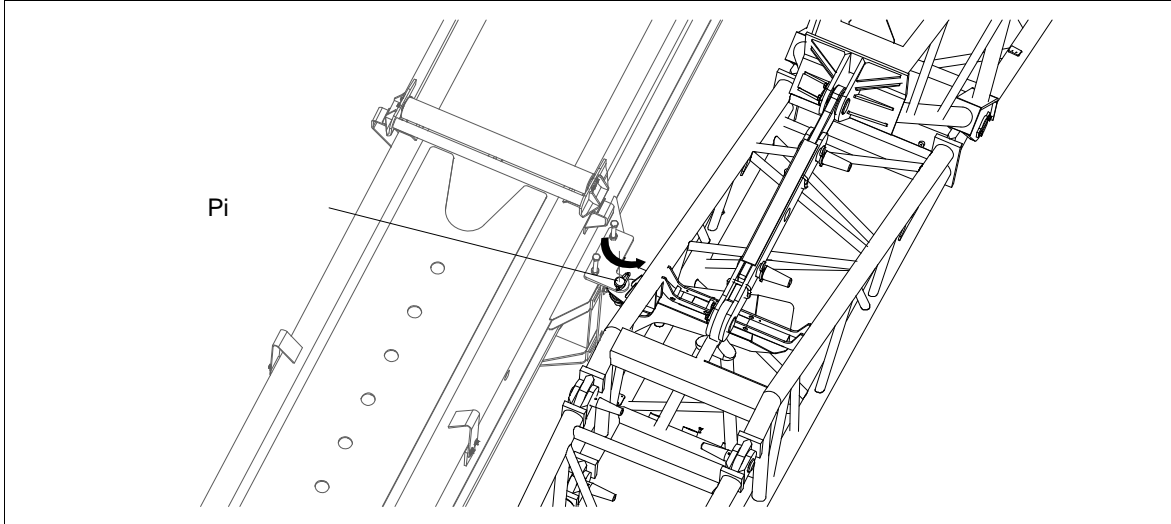

Figure 7-37 Move front of the jib away from the main boom
- J. Move front of the jib away from the main boom (jib pivots at pin IV). Refer to Figure 7-37.